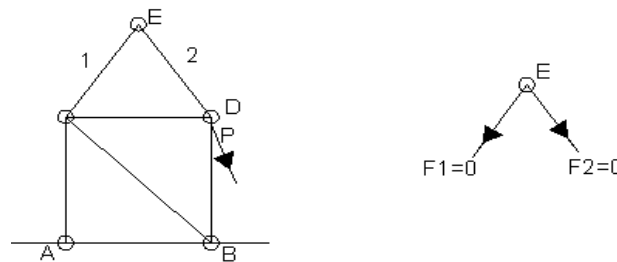

fig6.3
(2) Special Condition:
- When two members meeting at a joint are not collinear and there is no external force acting at the joint, then the forces in both the members is zero, as shown in fig. 6.3.